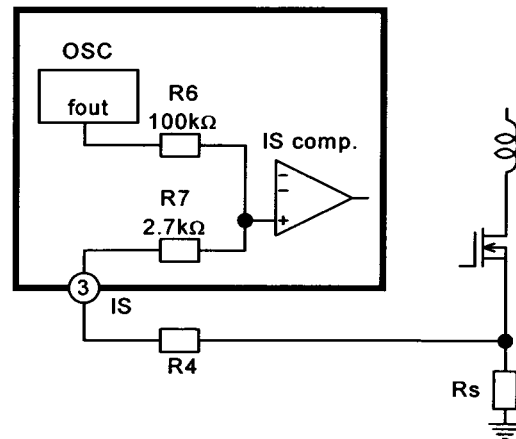
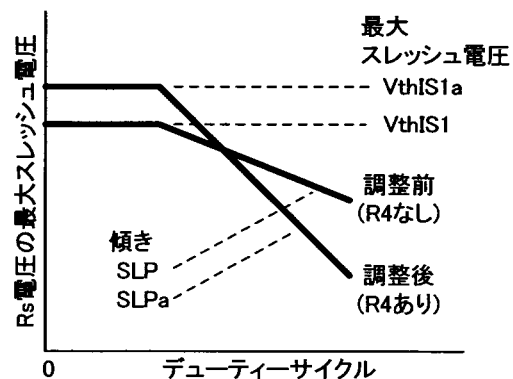

Fig.32 Adjustment of slope compensation
Fig.33 Maximum threshold voltage after adjustment
(6) Slope compensation
As described in "9-(6) Slope compensation," slope compensation is implemented by adding a ramp signal generated from the oscillator to IS pin voltage using resistors 100kΩ and 2.7kΩ as shown in Fig.32. Adding R4 can change the magnitude of slope compensation as shown in Fig.33.